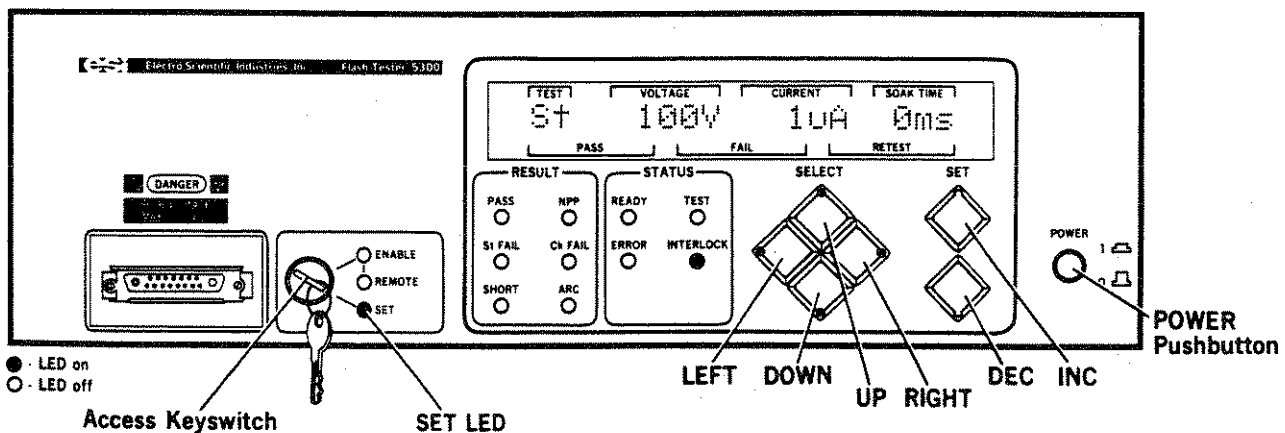

Figure 7-41. Front Panel
STEP 2. Press the POWER pushbutton on the 5300 to turn the instrument to 1 (on). Refer to Figure 7-41.
STEP 3. Turn the access keyswitch to the SET position to gain access to the SET mode. The SET LED should illuminate. Refer to Figure 7-41.